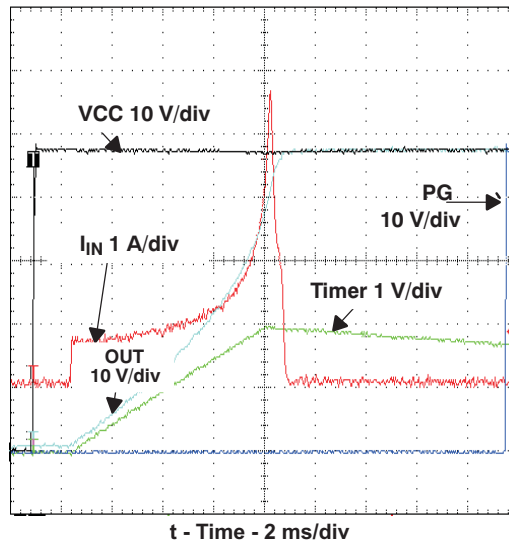
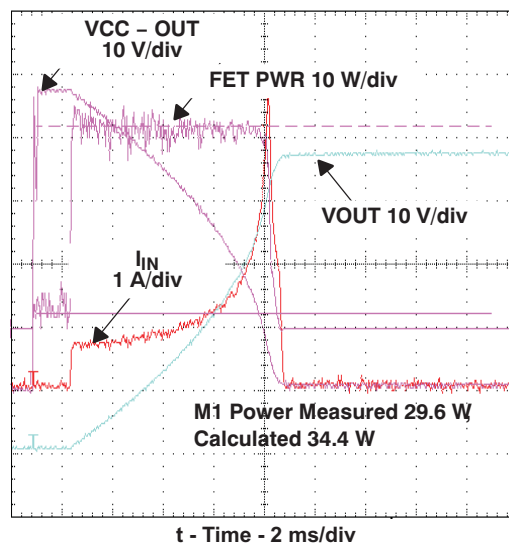
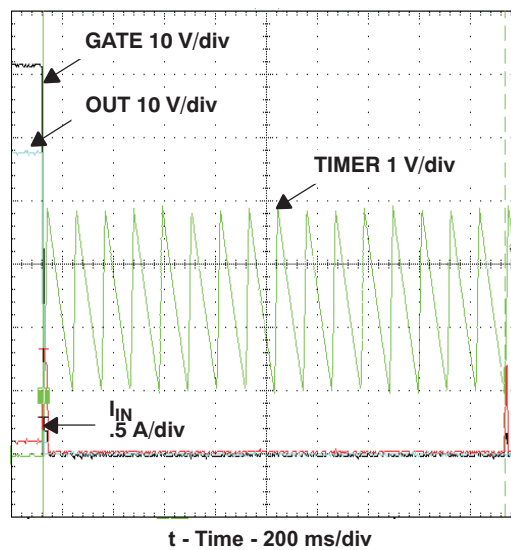

Figure 13. Basic Board Insertion
Figure 14. Computation of Q1 Stress During Startup
Figure 17. TPS2491 Restart Cycle Timing
A capacitor may be tied from PROG to ground to alter the natural constant power inrush current shape. If properly designed, the effect is to cause the leading step of current in Figure 13 to look like a ramp.
The typical application circuit, and oscilloscope plots of Figure 13 through Figure 17 demonstrate many of the functions described Device Functional Modes.
### 7.4.1 Board Plug-In (Figure 13)
### 7.4.2 TIMER and PG Operation (Figure 13)
7.4.3 Action of the Constant Power Engine (Figure 14)
The calculated power dissipated in Q1,  $V_{DS} \times I_D$ , is computed under the same startup conditions as Figure 13. The current of Q1, labeled  $I_{IN}$ , initially rises to the value that satisfies the constant power engine; in this case it is  $34\text{ W} \div 48\text{ V} = 0.7\text{ A}$ . The 34 W value is programmed into the engine by setting the PROG voltage using Equation 2 given in the PROG.  $V_{DS}$  of Q1, which is calculated as  $V_{(SENSE-OUT)}$ , falls as  $C_O$  charges, thus allowing the Q1 drain current to increase. This is the result of the internal constant power engine adjusting the current limit reference to the GATE amplifier as  $C_O$  charges and  $V_{DS}$  falls. The calculated device power in Figure 14, labeled FET PWR, is seen to be flat-topped and constant within the limitations of circuit tolerance and acquisition noise. A fixed current limit is implemented by clamping the constant power engine's output to 50 mV when  $V_{DS}$  is low. This protection technique can be viewed as a specialized form of foldback limiting; the benefit over linear foldback is that it yields the maximum output current from a device over the full range of  $V_{DS}$  and still protects the device.
### 7.4.5 Automatic Restart (Figure 17)
A capacitor can be connected from the PROG pin to ground to reduce the initial current step seen in Figure 13 based on the 代表的なアプリケーション circuit. This method maintains a relatively fast turn-on time without the drawbacks of a gate-to-ground capacitor that include increased short circuit response time and less predictable gate clamping.